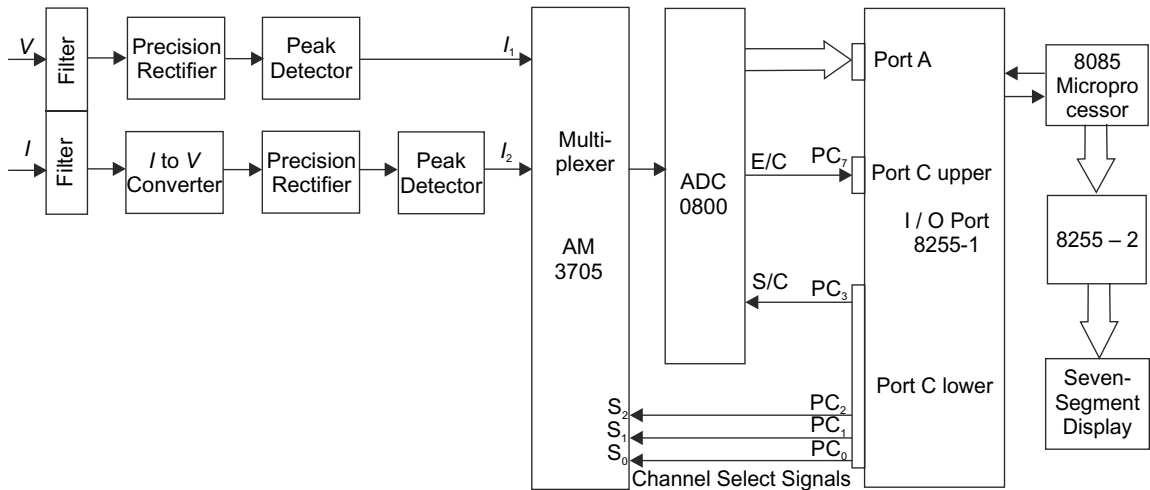

Fig. 10.26 Schematic block diagram for impedance measurement
Impedance of a circuit (Z) is defined as the ratio of V and I . It can be expressed by $Z = \frac{V}{I}$. To measure impedance, firstly we measure rms voltage and current using a multiplexer-based A/D converter. After measuring V_{rms} and I_{rms} , the ratio $V_{\text{rms}}/I_{\text{rms}}$ can be determined by using a division subroutine. Figure 10.26 shows the schematic block diagram of impedance measurement.